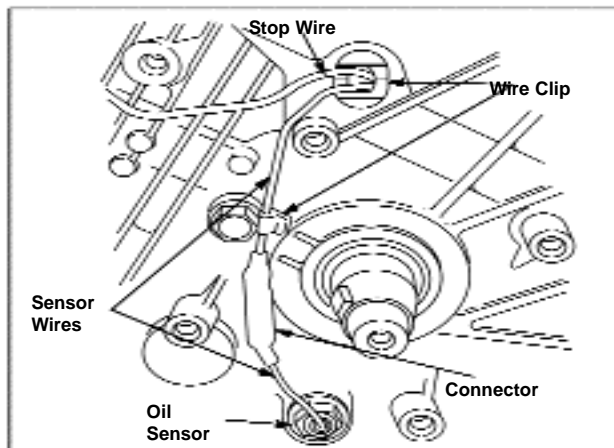

Figure 72 - Oil Sensor Wiring
1. Install stop switch wire on armature. See Figure 72.